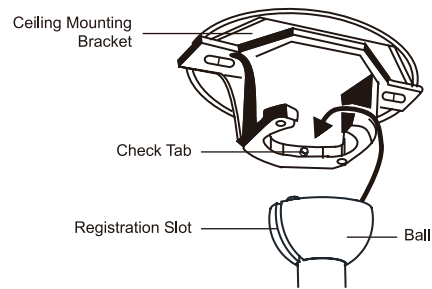

Fig. 11
Step 11. Lift the motor assembly into position and place the ball into the ceiling mounting bracket. Rotate the entire assembly until the “Check Tab” has dropped into the “Registration Slot” and seats firmly. (**Fig. 11**)